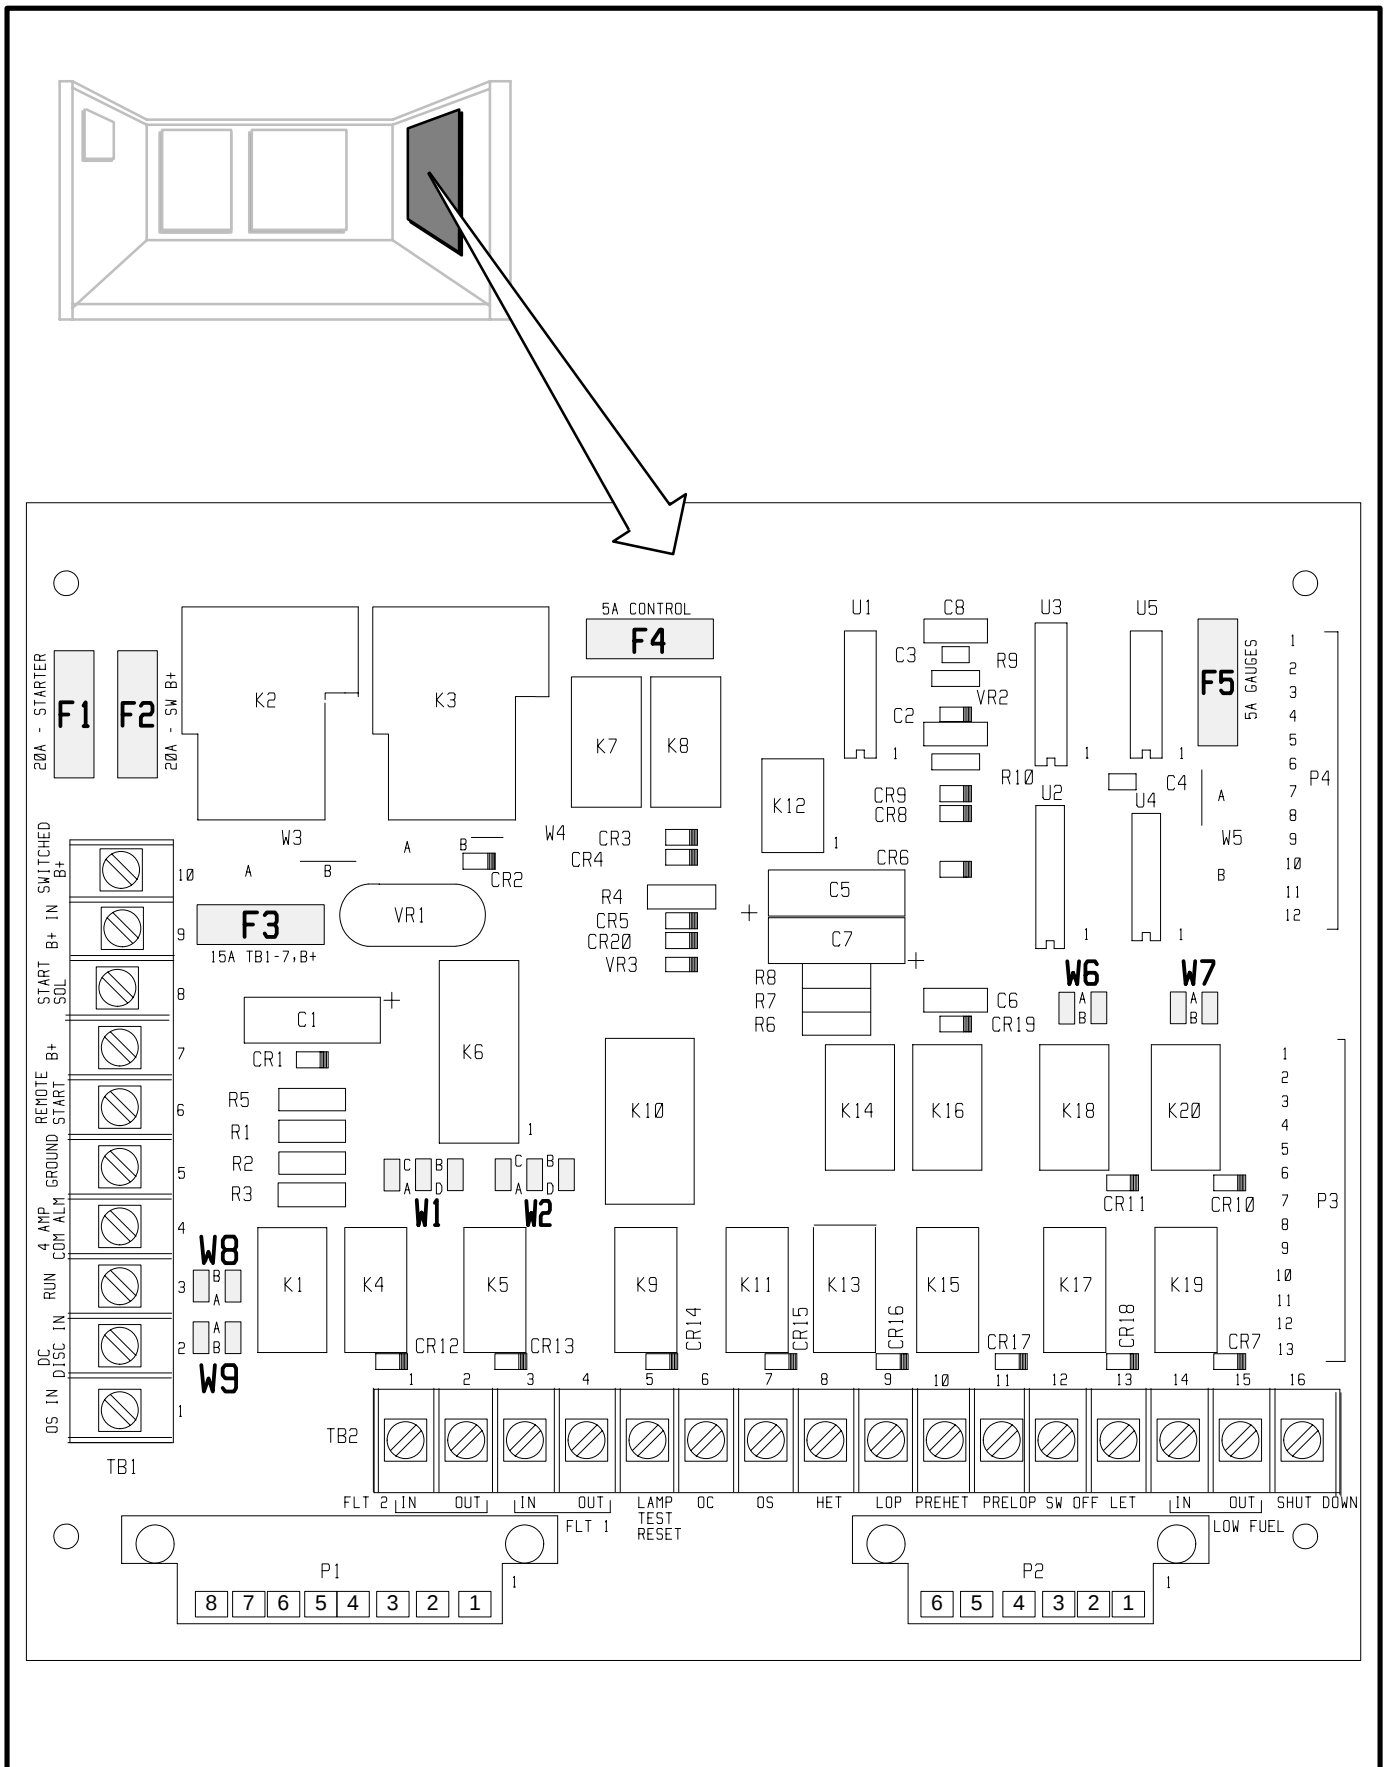

FIGURE 3-2. ENGINE MONITOR FUSES AND FUNCTION SELECTION JUMPERS
The heart of the engine control system is the engine monitor (A11). It is a printed circuit board assembly mounted on the side wall of the control box (Figure 3-2). It starts and stops the engine in response to the control panel switches, engine sensors and remote control signals.
6. Fuse F1 (see Figure 3-2) on engine monitor board A11 has blown (no voltage [12VDC] at A11-TB1-8).	The wire between A11-TB1-8 and terminal 85 on relay K12 in the control box may be loose and shorting to ground. Repair as necessary and replace the fuse with one of the same type and amp rating (20 A).
7. Fuse F2 (see Figure 3-2) on engine monitor board A11 has blown (no voltage [12VDC] at A11-TB1-10).	Either the wire between terminal A11-TB1-10 and emergency stop switch S14 terminal S14-C-1 or between S14-C-2 and relay K11 terminal 85 may be loose and shorting to ground. Repair as necessary and replace the fuse with one of the same type and amp rating (20 A).
8. Fuse F4 (see Figure 3-2) on engine monitor board A11 has blown.	The lead to terminal 3 on switch S12 (Run-Stop-Remote) or to terminal 5 on switch S11 (Lamp Test-Reset-Preheat) or a lead in the indicator lamp (A12) harness or engine gauge (M11 through M16) harness may be loose and shorting to ground. Repair as necessary and replace the fuse with one of the same type and amp rating (5 A).